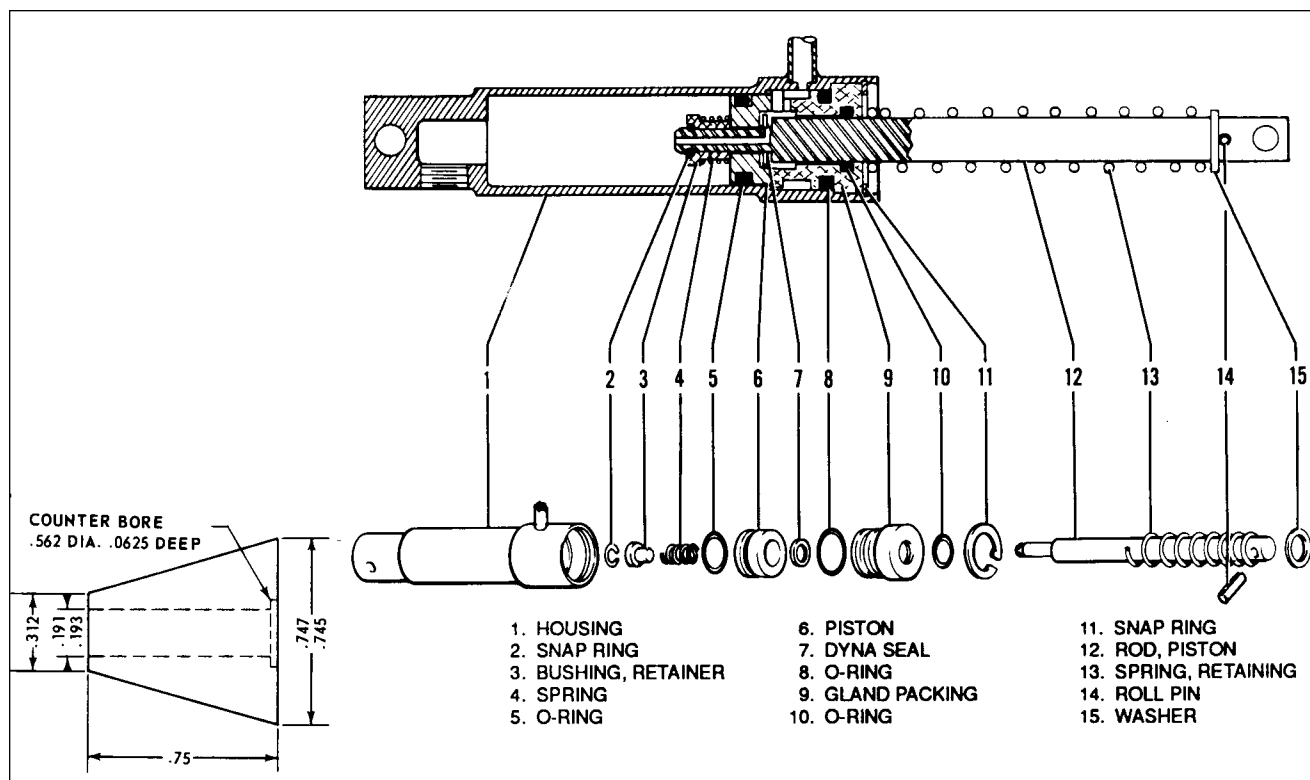

Figure 7-22. Brake Master Cylinder (Hand/Parking Brake)
**7-59. DISASSEMBLY OF BRAKE MASTER CYLINDER. (Refer to Figure 7-22.)**
- b. To disassemble the cylinder, first remove the piston rod assembly by removing the snap ring (11) from the annular slot at the rod end of the cylinder. Draw the piston rod assembly from the cylinder.
- c. The piston rod assembly may be disassembled by first removing the small snap ring (2) securing the retainer bushing (3), spring (4), piston (6), seal (7), gland (9) and if desired, the large return spring.
**7-61. ASSEMBLY OF BRAKE MASTER CYLINDER. (Refer to Figure 7-22.)**